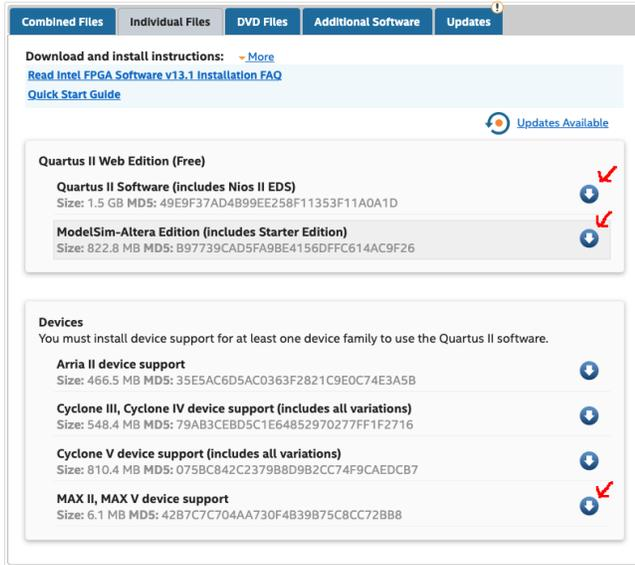

Figure 2. Download the marked files.
1. Choose the *Individual Files* tab as shown in Figure 2.